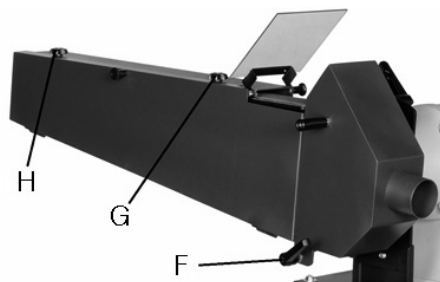

Figure 6. Access panel knobs and handles
2. See Figure 6. Loosen handle F and knobs G and H to open the access panel.